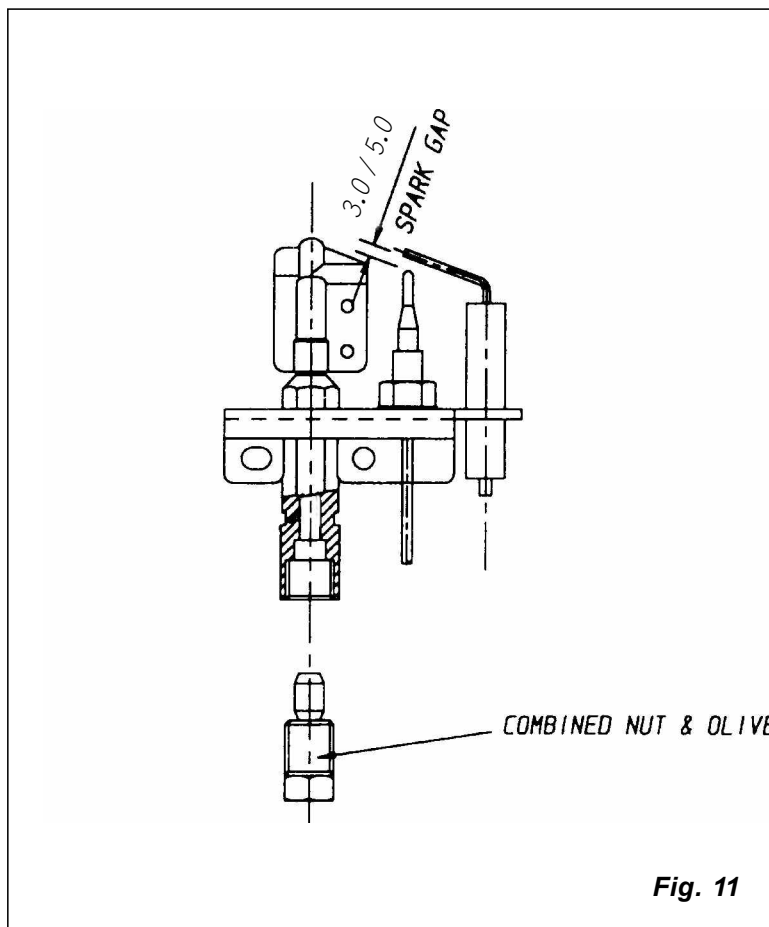

Fig. 11
N.B. The spark electrode should be positioned as shown in Fig. 11.